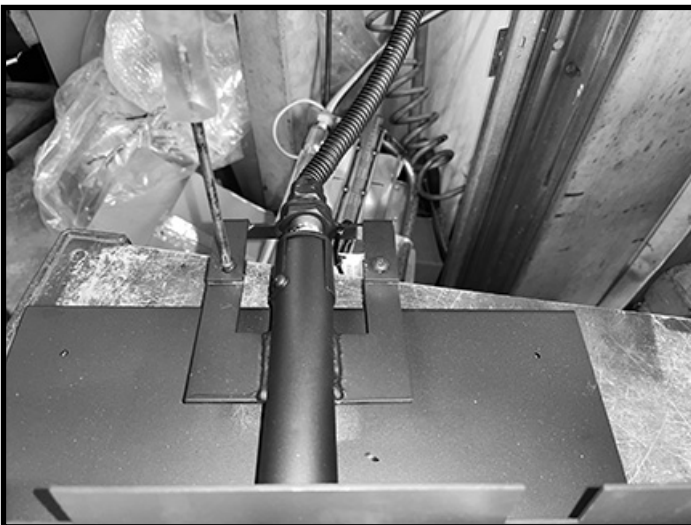

Figure 15: Unscrewing manifold from the burner.
2. Remove the two screws securing the manifold assembly to the burner (Figure 15).